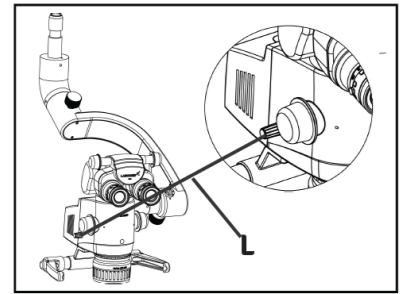

Fig. 47
Refer Fig. 47 (L). Filter change Lever is located in left side of the magnichanger housing. Use lever by pulling out to change the filter and push back to main light.